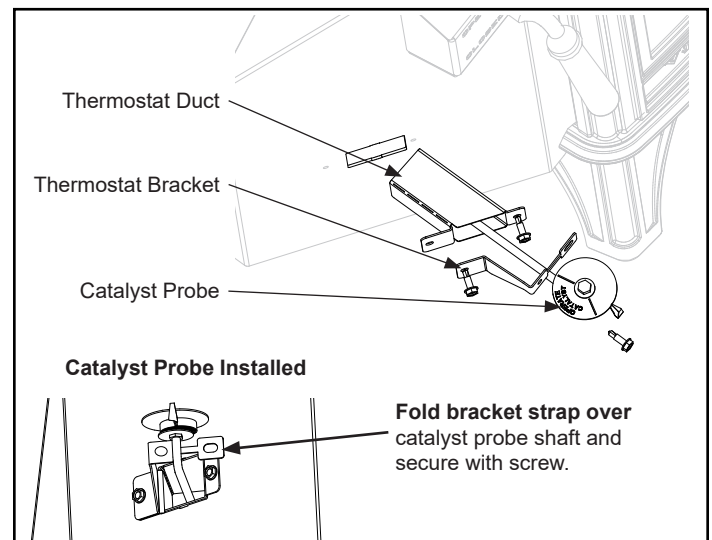

Figure 4 - Install the Catalyst Temperature Probe
1. Install the catalyst temperature probe by removing the knockout located at the back left hand side of the unit, Figure 4.
3. Install thermostat duct, bracket and temperature probe using (2) #8 Tek screws also supplied in the kit.